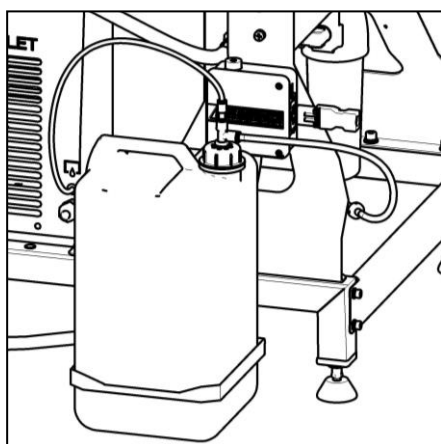

Fig.10
- Connect the hoses from the water separator and the condensate drain from the dryer to connectors at the canister valves (Fig.10).